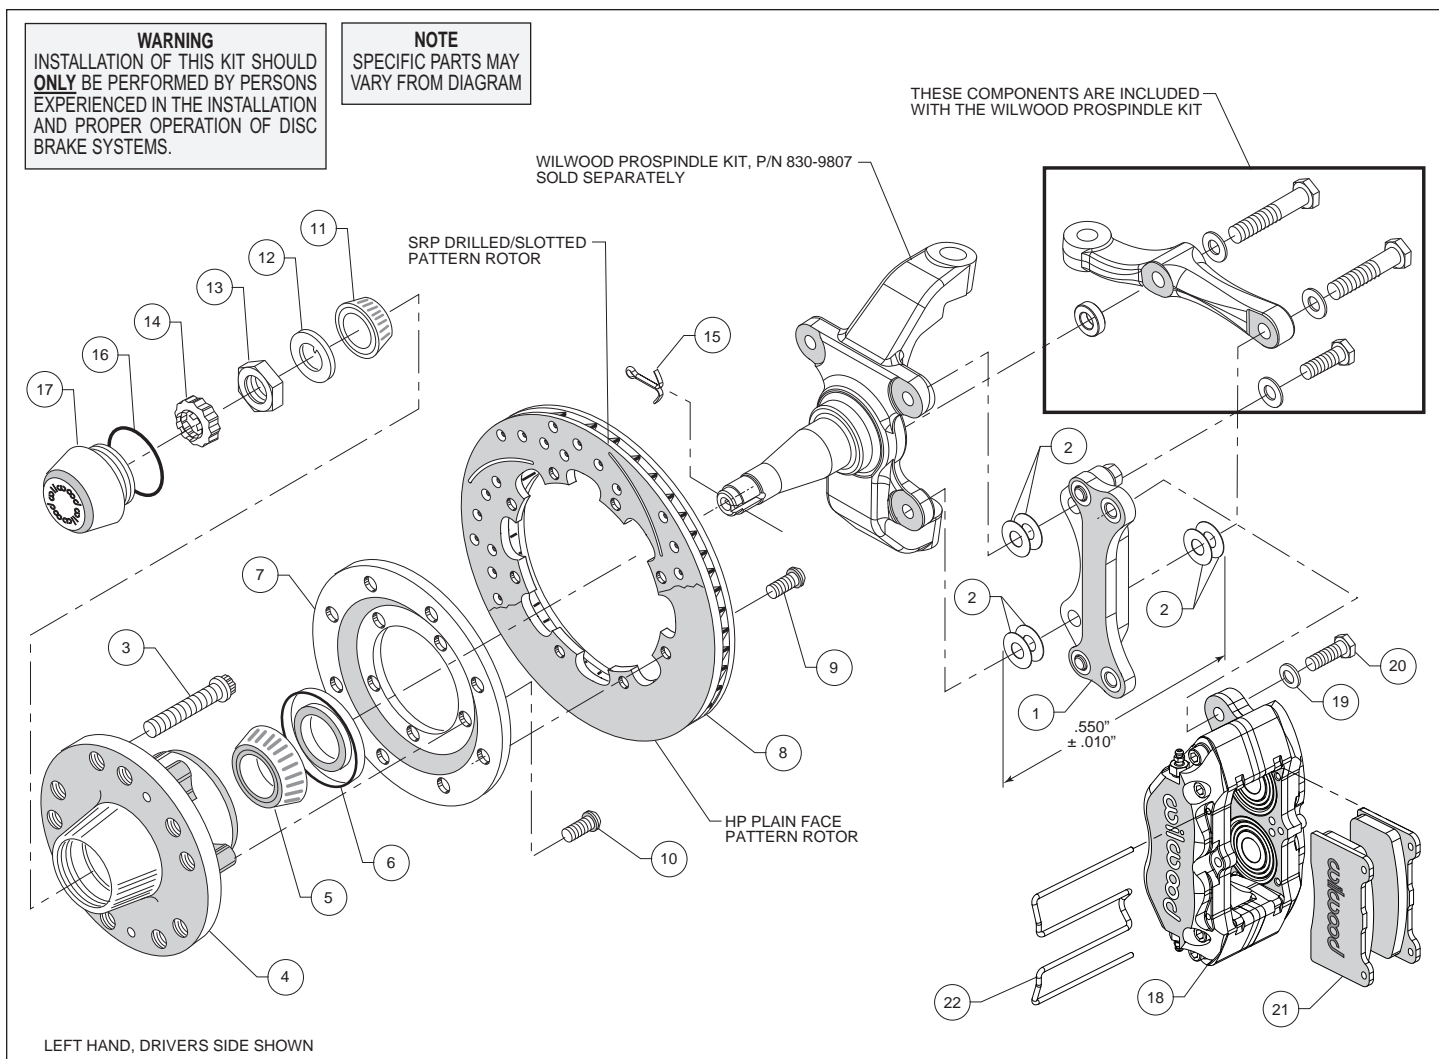
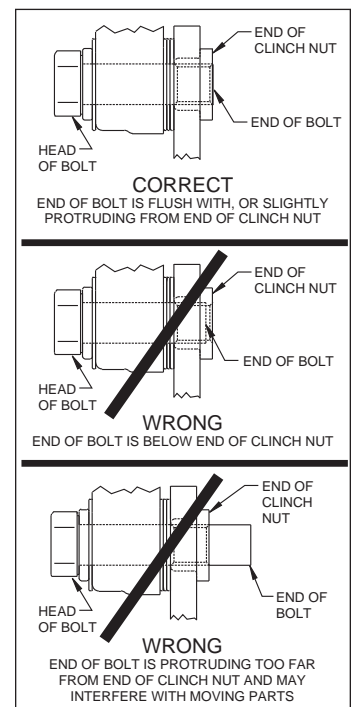

Figure 1. Typical Installation Configuration
Figure 3. Clinch Nut Engagement Diagram
Assembly Instructions (numbers in parenthesis refer to the parts list and Figure 1 on the preceding pages): **CAUTION:** All mounting bolts must fully engage insert nuts. Be sure to check that all bolts are either flush or protruding through flanged side of insert nut after shimming, Figure 3. **NOTE:** Rear hole refers to the part of the spindle that would be facing the back of the vehicle, front is facing the front of the vehicle.
- The caliper mounting bracket assembly (1) in conjunction with the Wilwood ProSpindle (P/N 830-9807, includes three mounting bolts, three washers, and a spacer, kit sold separately) should be installed first with clean, dry threads on the mounting bolts as follows:
- Install the bracket on the inboard side of the spindle by sliding the 1.25" long bolt from the ProSpindle kit through a flat washer, also from the ProSpindle kit, through the top hole of the caliper mounting bracket and into the upper rear spindle mounting ear hole, as shown in Figure 1. Initially place two .016" thick shims (2) on top bolt between the bracket (1) and the spindle. Do not tighten at this time.
- Slide the 2.00" long bolt from the ProSpindle kit through a flat washer, through the rear (thinner end) hole on the steering arm, through bottom hole of mounting bracket (1), and into the lower rear spindle mounting hole. Initially place two .016" thick shims (2) on bottom bolt between the bracket and the spindle, and another two .016" thick shims (2) between bracket and steering arm, Figure 1. The bracket is positioned between the steering arm and the spindle for the bottom bolt installation. The bracket and shim washers for the lower rear mounting must be a thickness of $.550 \pm .010$ ". Do not tighten at this time.
- Finish installing the steering arm assembly by sliding the 2.25" long bolt through flat washer, then through the front (thicker end) hole of the steering arm. Place the .25" thick spacer between the steering arm and the backside of the spindle. Snug all three bolts. The bracket must tighten squarely against the inboard side of the caliper mounting bosses on the spindle body. Inspect for interference from casting irregularities, machining ridges, burrs, etc. **NOTE:** Be sure the heads of the caliper bracket (1) insert nuts are facing outward toward the wheel.
- Install wheel studs (3) into the hub (4), Photo 1. Torque to 77 ft-lb. **NOTE:** There are two lug patterns of five holes each in the hub (5×4.50 and 5×4.75). Ensure the correct hub stud pattern is being used to fit the wheel application.
- Pack the large inner bearing cone (5) with high temperature disc brake bearing grease (available from your local auto parts store) and install into the backside of the hub (4), Photo 2.
- Install the grease seal (6) by pressing into the backside of the hub (4), Photo 2.
- Orient the rotor (8) and the rotor adapter (7) as shown in Figure 1 and Photo 3. Attach the rotor to the adapter using bolts (9). Using an alternating sequence, apply red *Loctite*® 271 to the threads, and torque to 25 ft-lb.
- Mount the adapter/rotor assembly (7/8) to the hub (4) using bolts (10), as shown in Figure 1 and Photo 4. Using an alternating sequence, apply red *Loctite*® 271 to the threads, and torque to 45 ft-lb.
- NOTE:** Please reference the caution statement at the beginning of the assembly instructions. Mount the caliper (18) onto the caliper mounting bracket (1) using bolts (20) and washers (19), as shown in Figure 1. Temporarily tighten the mounting bolts and view the rotor (8) through the top opening of the caliper. The rotor should be centered in the caliper, Photo 7. If not, adjust the caliper mounting bracket (1) by using 0.016 inch thick shims (2) placed between the caliper mounting bracket and the spindle, or between the spindle and the steering arm, whichever is applicable to gain the proper caliper/rotor alignment. Always use the same amount of shims on each of the two mounting bolts. **NOTE:** The end of each bolt must be flush with or slightly protruding from the head of the clinch nut, as shown in Figure 3. If necessary place spare shims between washer (19) and caliper mounting ear to achieve the proper clinch nut engagement. Once the caliper alignment and clinch nut engagement are correct, remove the bolts one at a time, apply red Loctite® 271 to bolt threads, and torque to 40 ft-lb.
- Install the disc brake pads (21) into the caliper, with the friction material facing the rotor (8), and secure in place using the pad clip retainer (22), Photo 8.